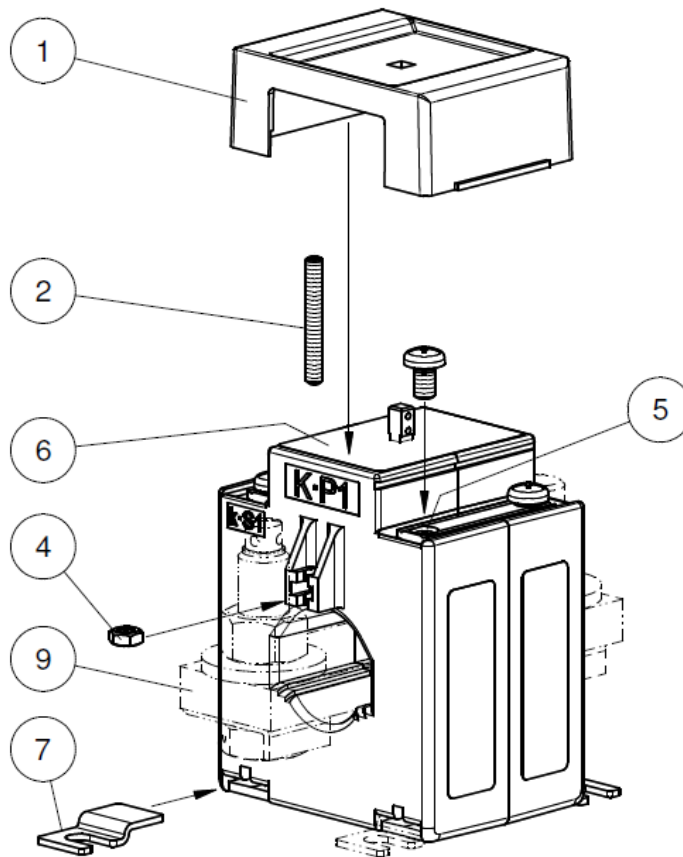

Figure 2.27: LMG-Z702 Drawing 3D
Description of Figure 2.27:
- 2 Secondary terminals, max. tightening torque see Figure 2.27
- 3 Primary conductor fixture, max. tightening torque see Figure 2.27